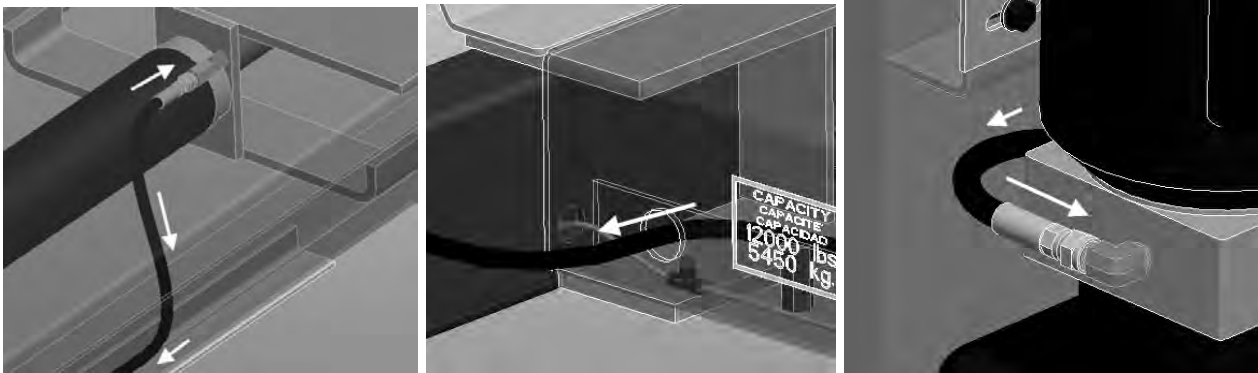

Figure 17a,b,c - Hydraulic Hose Routing
2. Connect the end of the flexible hydraulic hose assembly to the flow control at the cylinder. **DO NOT OVER TIGHTEN.** See **Figure 17a.**